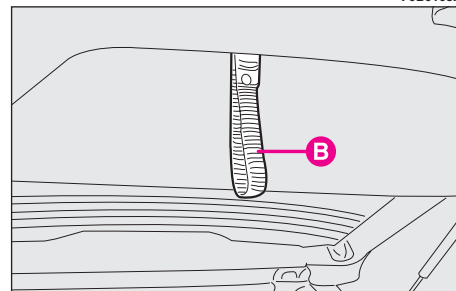

fig. 153
- lower it by using handle **B**-fig. 153, then press on the lock until you hear the door catch.